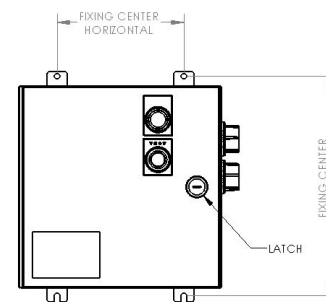

Figure 1
2. The battery back-up unit may be mounted to a ceiling or wall using the welded mounting tabs on the outside of the enclosure (see Figure 1). Select a mounting location that will provide suitable strength and rigidity for supporting the battery back-up unit.
5. Use 3/8" size hardware to securely mount enclosure box to desired location. See Table 1 and Figure 1 for mounting pattern dimensions.
1. Open the battery back-up unit using a flat head screwdriver to rotate the latch ¼ turn CCW (see Figure 1).